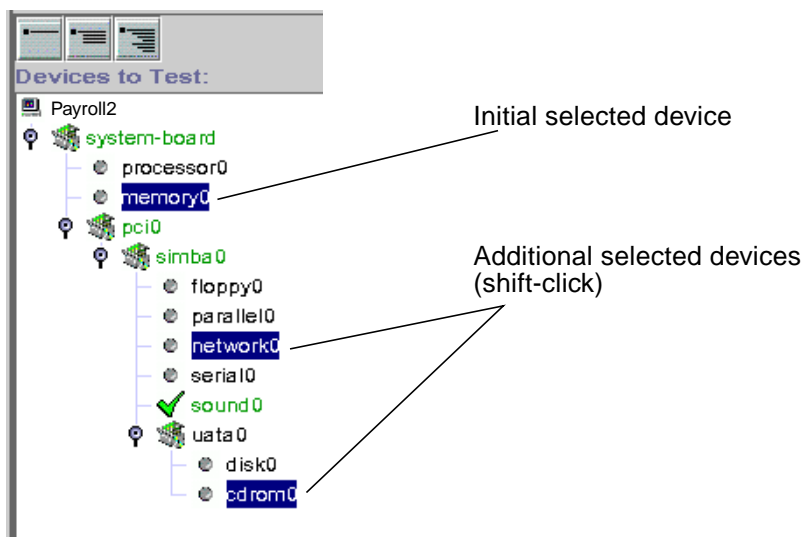

FIGURE 3-3 Selecting Multiple Devices
1. Hold down the Shift key while clicking on additional devices (FIGURE 3-3).